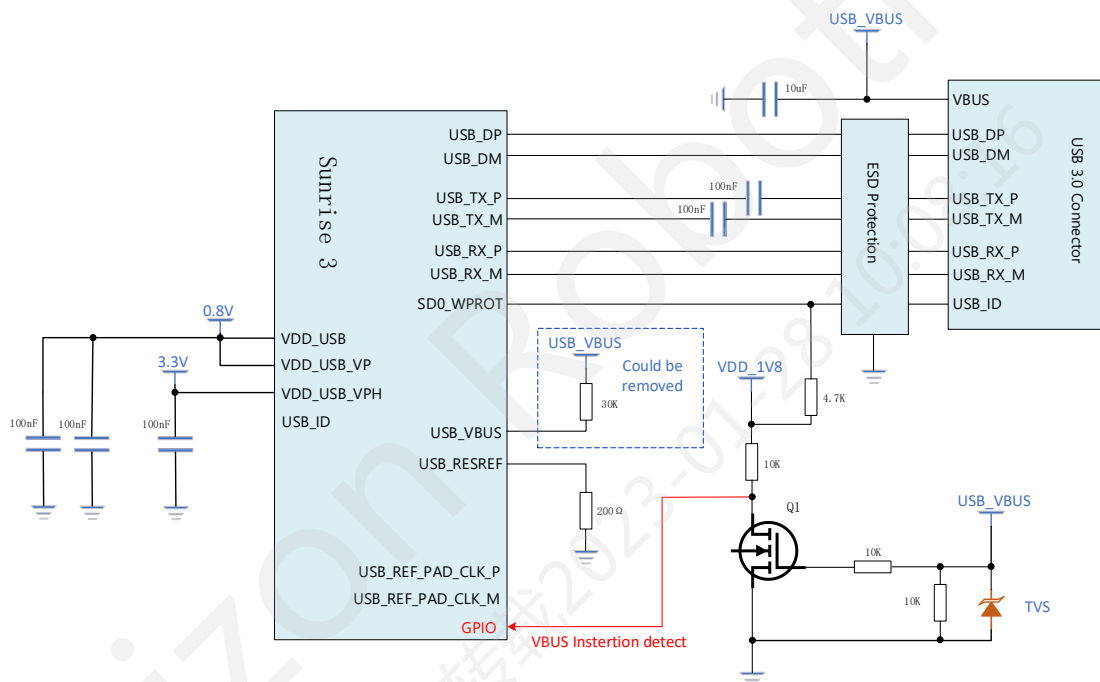

Figure 2-5 VBUS Insertion Detection Solution
**Solution A:** use a separate GPIO to detect the VBUS insertion. Please refer to the Figure 2-5 for the detail connection. Dedicated software thread is needed for GPIO status polling.